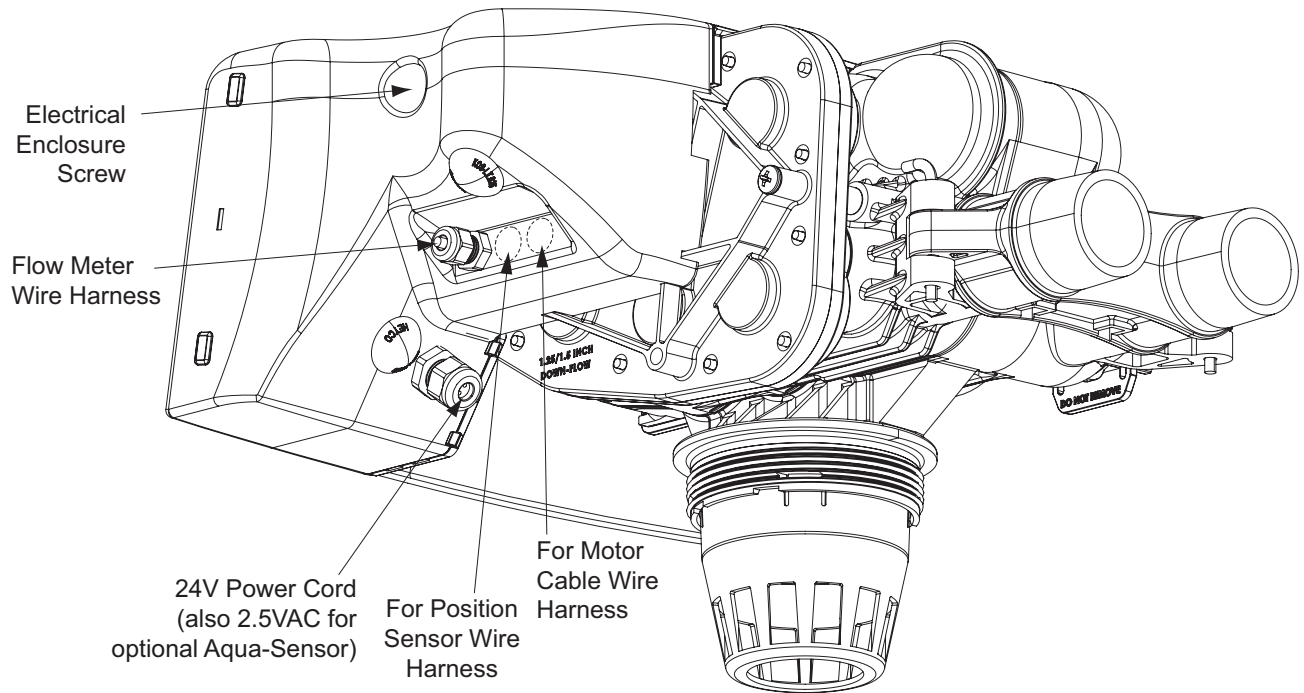

Figure 26. HE 1.5 Twin, main controller #1, electrical and accessory connections.
3. Connect the auxiliary board to the main board. See Figure 26. The auxiliary board is shipped inside the carton for HE 1.5 Twin Controller #2.
4. Open the two ports through the molded recessed area (area #4). See Figure 26. Use a sharp object (screwdriver or knife) to push through the plastic.